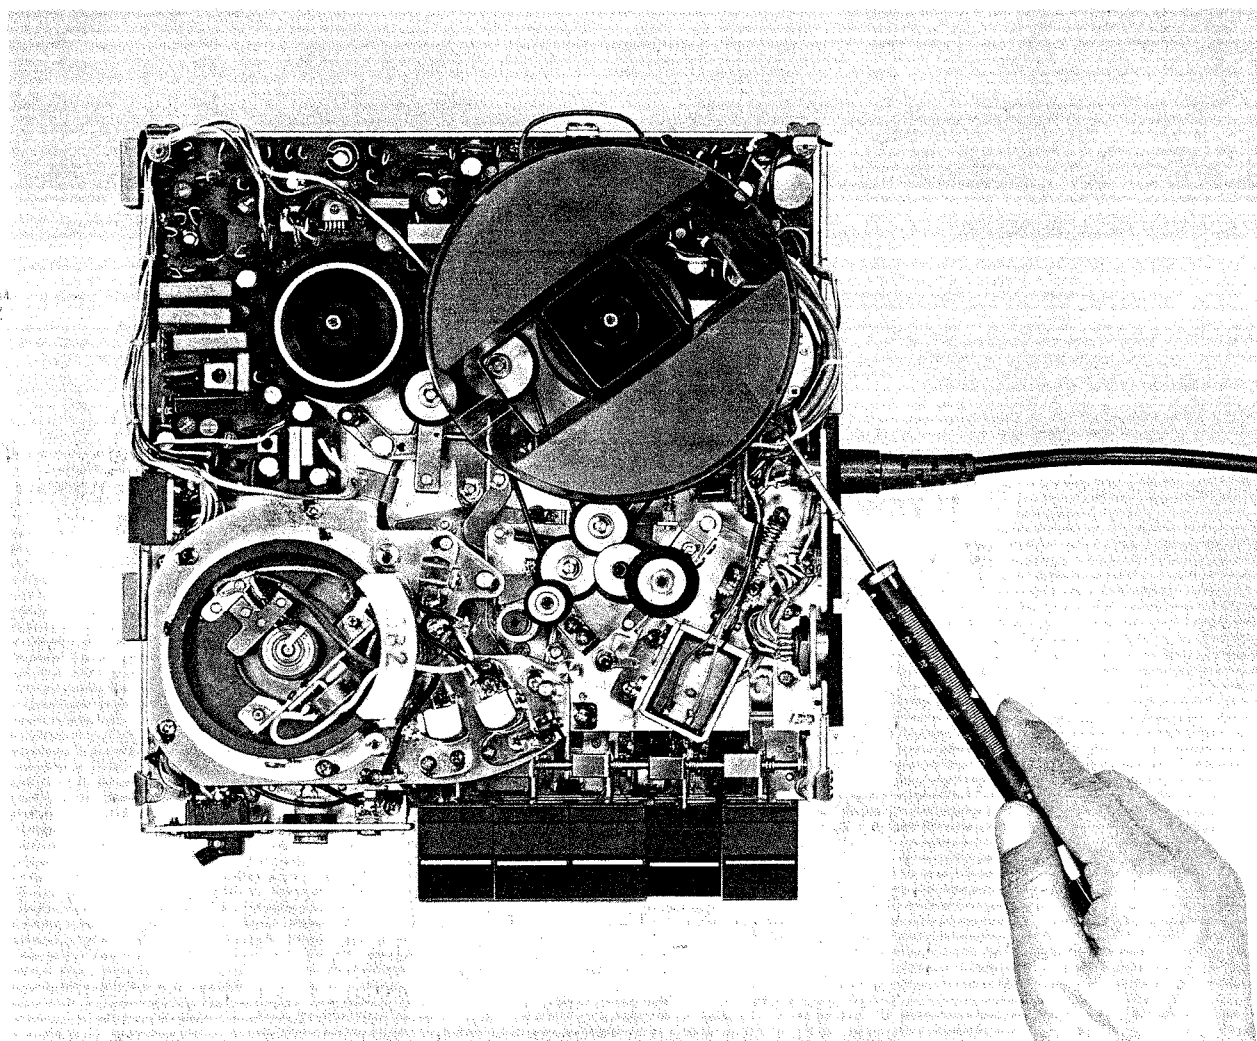

Fig. 1-33 Take-up Torque Measurement
(5) Take-Up Torque Adjustment
- a) As shown in fig. 1-33, connect a 0 to 300 gram spring gauge to a 50 mm diameter tape and measure take-up torque. (Standard is 100 to 120 grams).